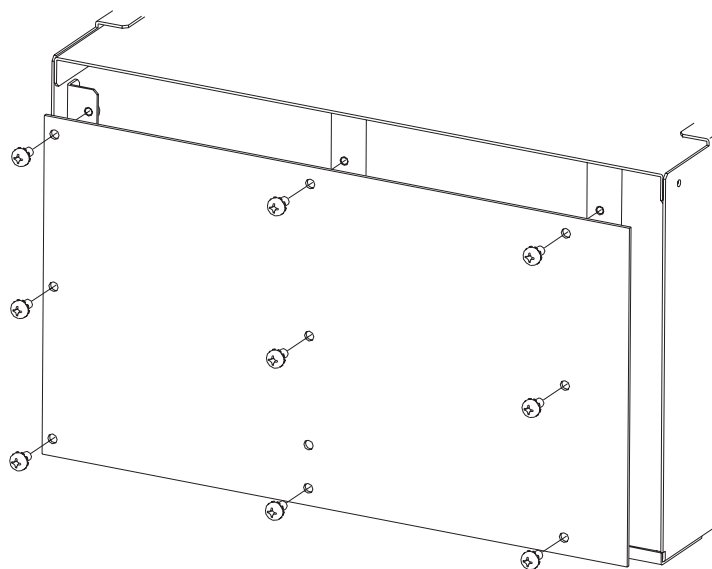

Figure 4-25 Removing the Connector Board
6. Remove the screws attaching the connector board to the cover and remove the motherboard from the security cage (see *Figure 4-25 Removing the Connector Board*).